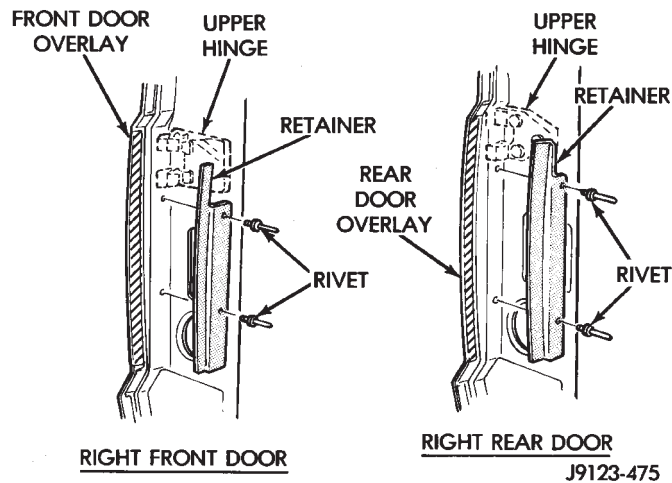

Fig. 66 Overlay Retainer At Door Front Flange
(4) Fold edges over onto the door panel flange areas and press them into place.
(5) Install the overlay retainer at door front flange with rivets (Fig. 66).